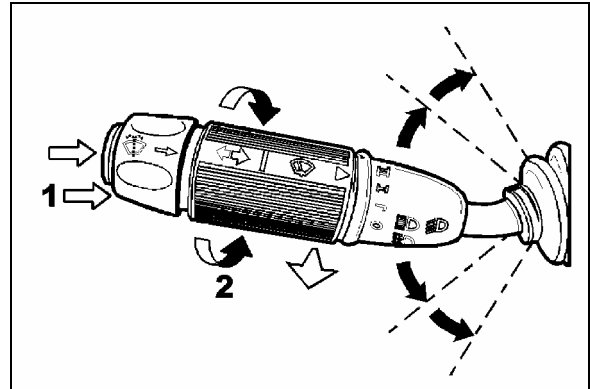

FIGURE 31: MULTIFUNCTION LEVER 23133
Turn the multifunction lever forward to activate lower windshield wipers (item 2, fig. 31). The first position operates the wipers at low speed and the second position operates the wipers at high speed. Turning the lever backwards will operate the wipers in the intermittent mode.
To activate the upper windshield washer pump, depress and hold the rocker switch on dashboard L.H. side (item 2, fig. 31). The upper wipers will come on automatically and will shut off a few seconds after releasing the rocker switch. The lower windshield washer pump is electrically operated and is controlled by a washer control ring on the multifunction lever (item 1, fig. 31).